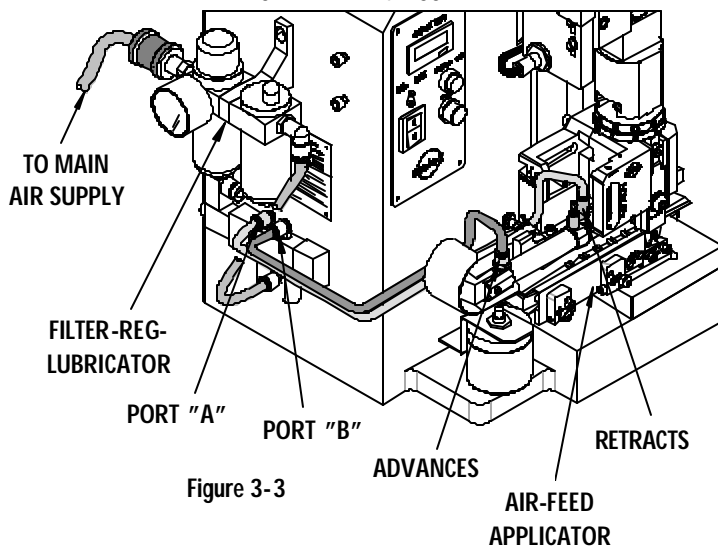

Figure 3-3
10. Insert the "A" port of the air valve with the tube that retracts the feed mechanism of the applicator. See Figure 3-3.
11. Insert the "B" port of the air valve with the tube that advances the feed mechanism of the applicator. See Figure 3-3.